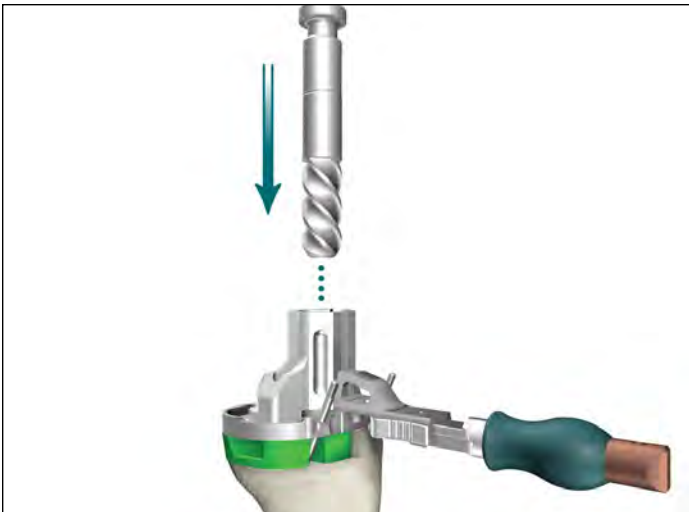

Figure 13
- Attach the Boss Reamer to the Universal Driver. Place the Boss Reamer into the Keel Punch Guide. Ream to the appropriate depth marker indicated by the step on the Reamer shank (up to the step for Size 1-3 Keel Punch Guide and all the way to the stop for Size 4-8 Keel Punch Guide) (**Figure 13**).